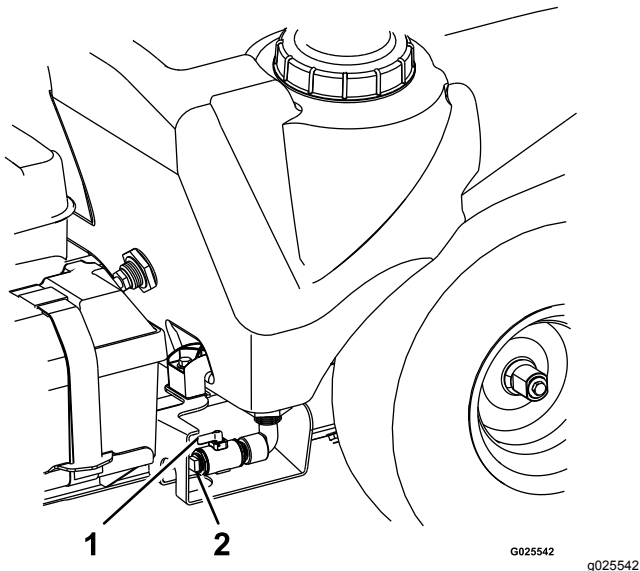

Figure 55
2. Remove the plug from the drain valve for the sprayer tank (Figure 55).
5. Rotate the handle for the drain valve clockwise 90° to drain the tank (Figure 55).
7. Close the tank-drain valve, remove the drain hose, and install the drain plug into the valve (Figure 55).